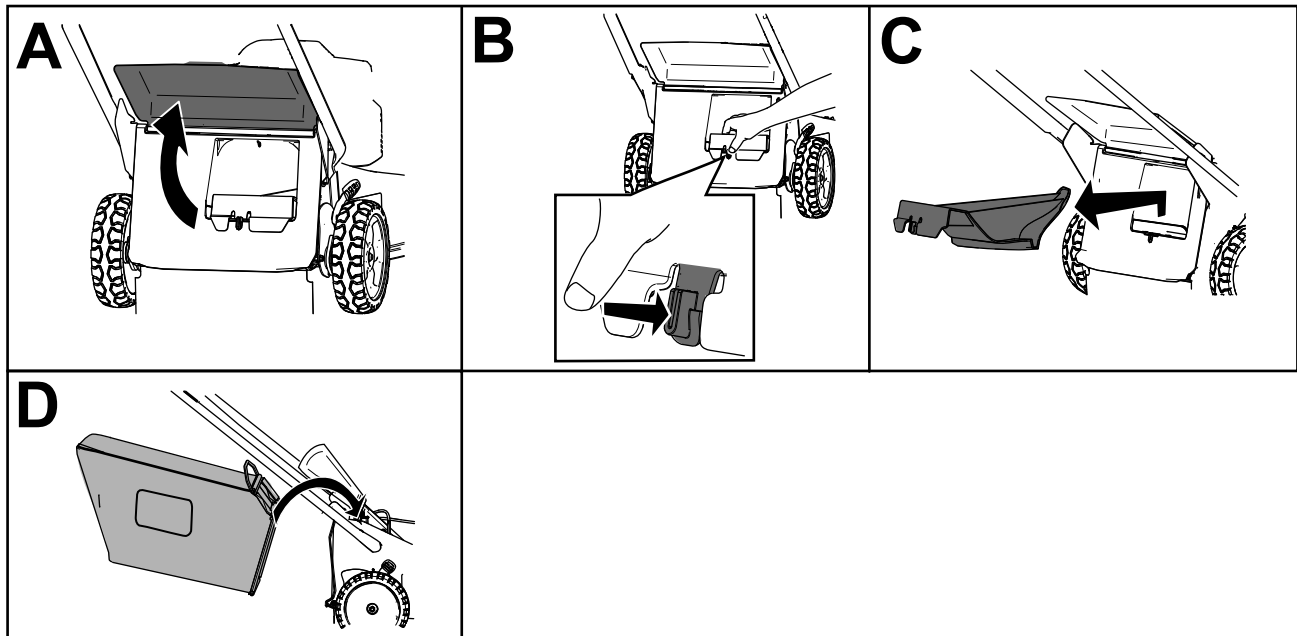

Figure 18
Note: To unlock the rear plug, rotate the lever on the plug to the right (Figure 18).
3. Raise and hold up the rear deflector (A of Figure 18).
4. Remove the rear-discharge plug by pushing in the latch with your thumb and pulling the plug out from the machine (B and C of Figure 18).
5. Install the bag-rod ends into the notches at the base of the handle, and rock the bag back and forth to ensure that the bag-rod ends are seated at the bottom of both notches (D of Figure 18).
3. Remove the bag rod on the grass bag from the notches at the base of the handle (A of Figure 18).
4. Install the discharge plug (B of Figure 18).
5. Lower the rear deflector (C of Figure 18).